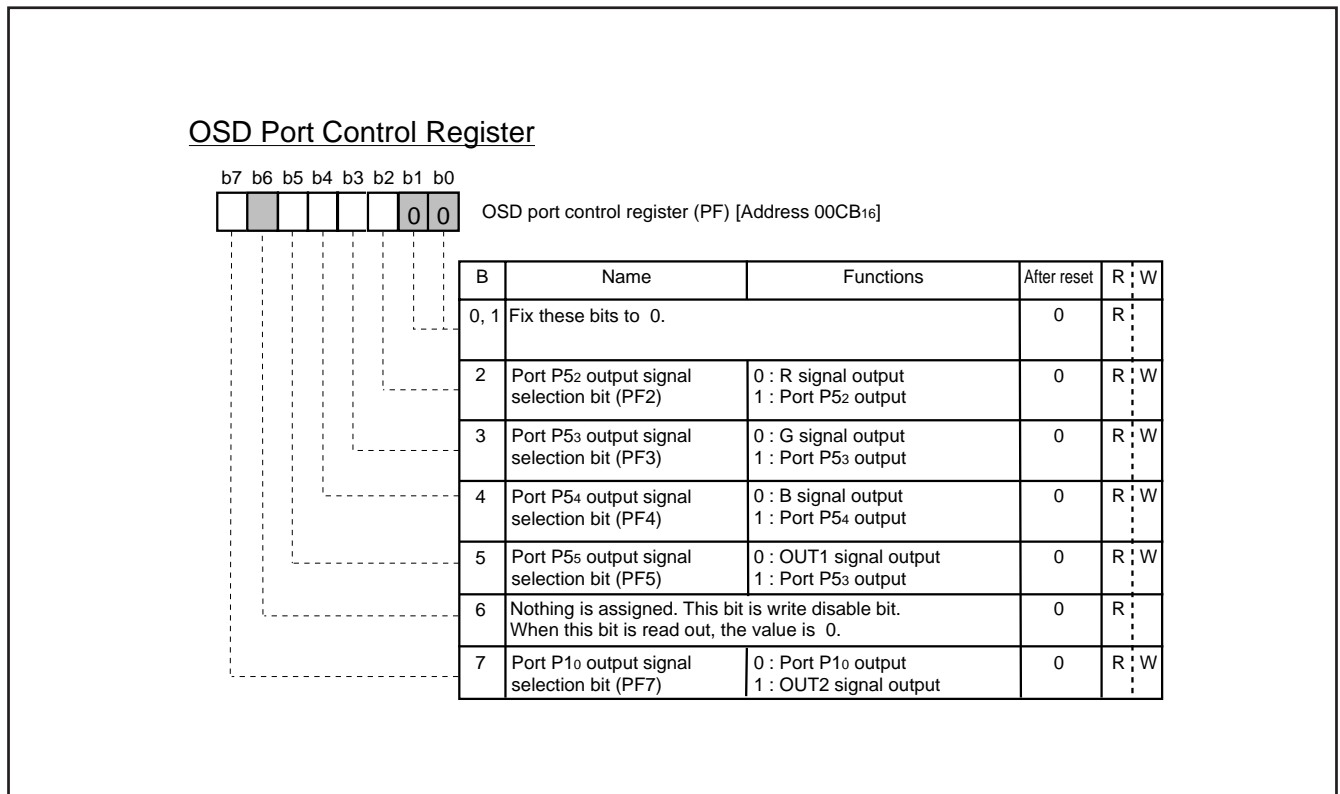

Fig. 8.11.28 OSD Port Control Register
**Note :** When OUT2 signal is output, set bit 7 of OSD port control register (refer to Figure 8.11.28) to "1."
The structure of the OSD port control register is shown in Figure 8.11.28.